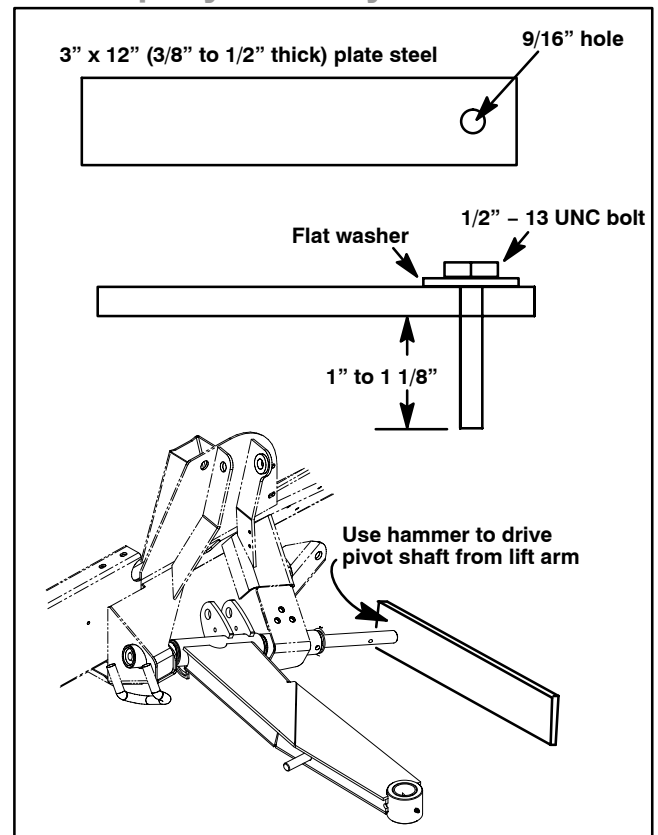

Figure 6
- A. If pivot shaft is difficult to remove, fabricate a puller as shown in Figure 6.